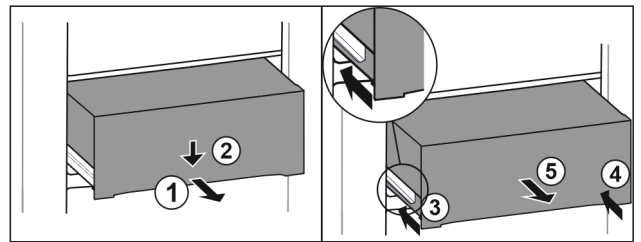

Fig. 90
- ▶ Pull out drawer half-way. Fig. 90 (1)
- ▶ Push the drawer down at the front. Fig. 90 (2)
- ▶ Push the left rail in by about 2 cm. Fig. 90 (3)
- ▶ Push the right rail in by about 2 cm. Fig. 90 (4)
- ▶ Remove drawer to the front. Fig. 90 (5)